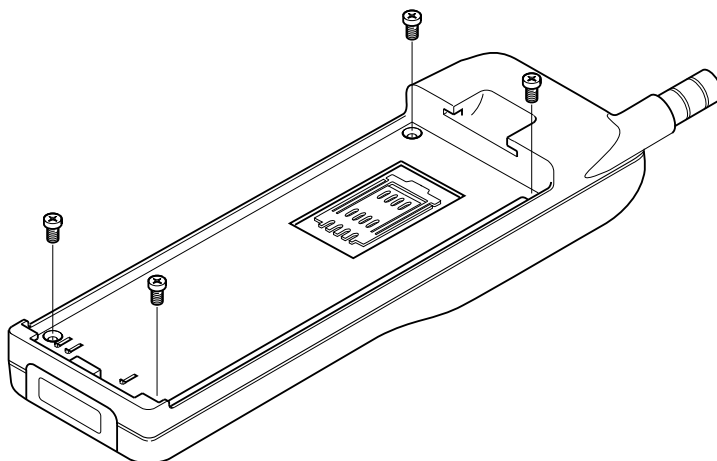

Figure 17: Case reassembly
2. (Figure 17) Care must be taken when reinstalling the back onto the telephone case. Ensure that the four securing screws are not over-tightened as this may affect the operation of the keypad.